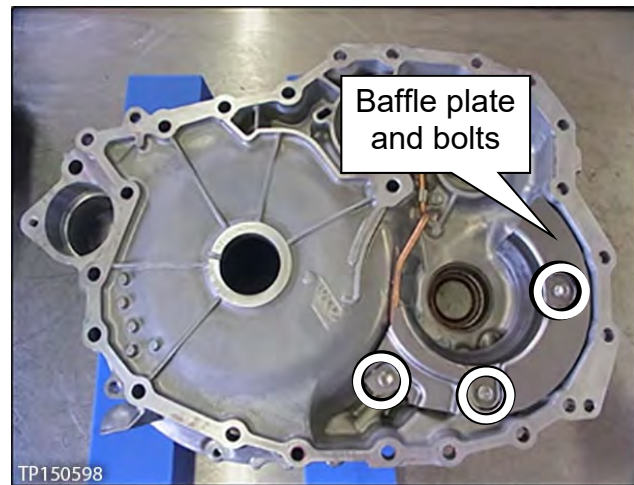

Figure 123
- a. Remove the three bolts, and then remove the baffle plate from the converter housing (Figure 123).